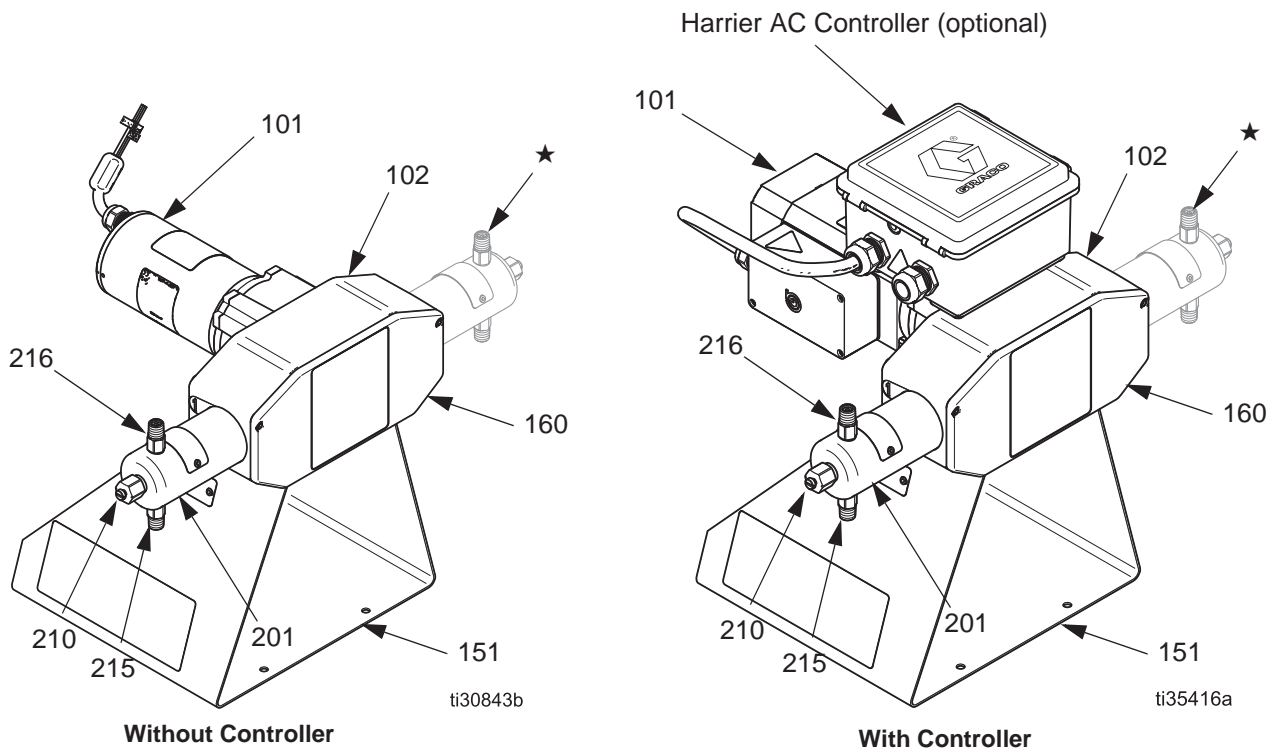

FIG. 4 G-Chem Pump Components
1. Remove and discard caps on check valves (215 and 216). See FIG. 4 on page 11.
2. Connect a 1/4 npt(f) fluid line from the fluid source to the inlet check valve (215).